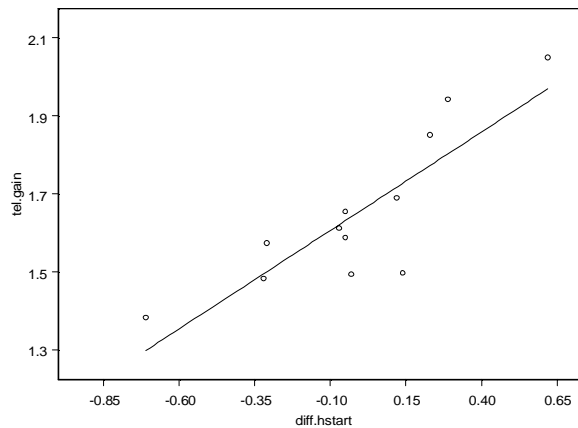

Figure 3.10: Scatter plot with least squares line, outlier points removed.
2. From the main menu, choose **Format ► Exclude Selected Points**. This results in a new least squares line, which fits the data without outliers quite well, as shown in Figure 3.10. Notice that the vertical axis scale has changed and the two removed outliers do not appear in the plot.